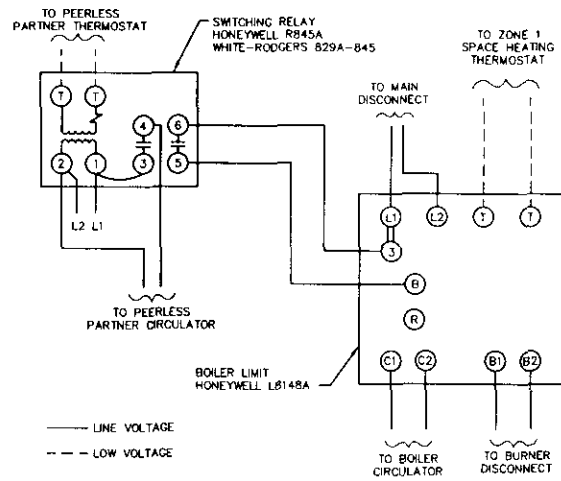

Figure 8: Wiring Diagram – WBV, EC and SC less Tankless
- d. WBV/EC/SC. Water less tankless heater. See Figure 8.